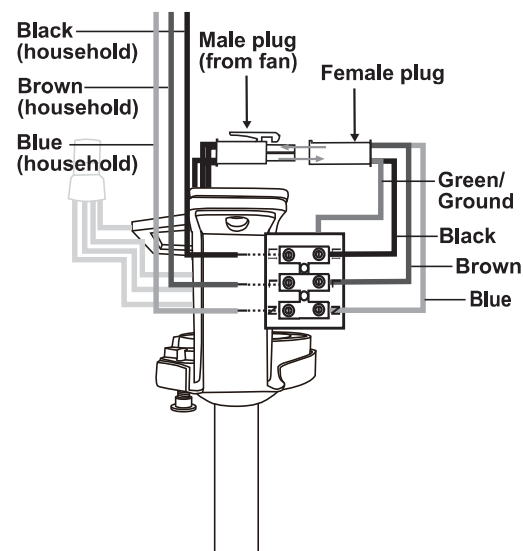

Figure 10A
3. Be sure to snap together the male and female plugs. (Fig. 10A)
4. Connect the blue, neutral household neutral wire to the terminal block "N" hole. Connect the brown, hot household neutral wire to the terminal block "L" hole. Connect the black, hot household neutral wire to the terminal block "LI" hole. (Fig. 10A & 10B)